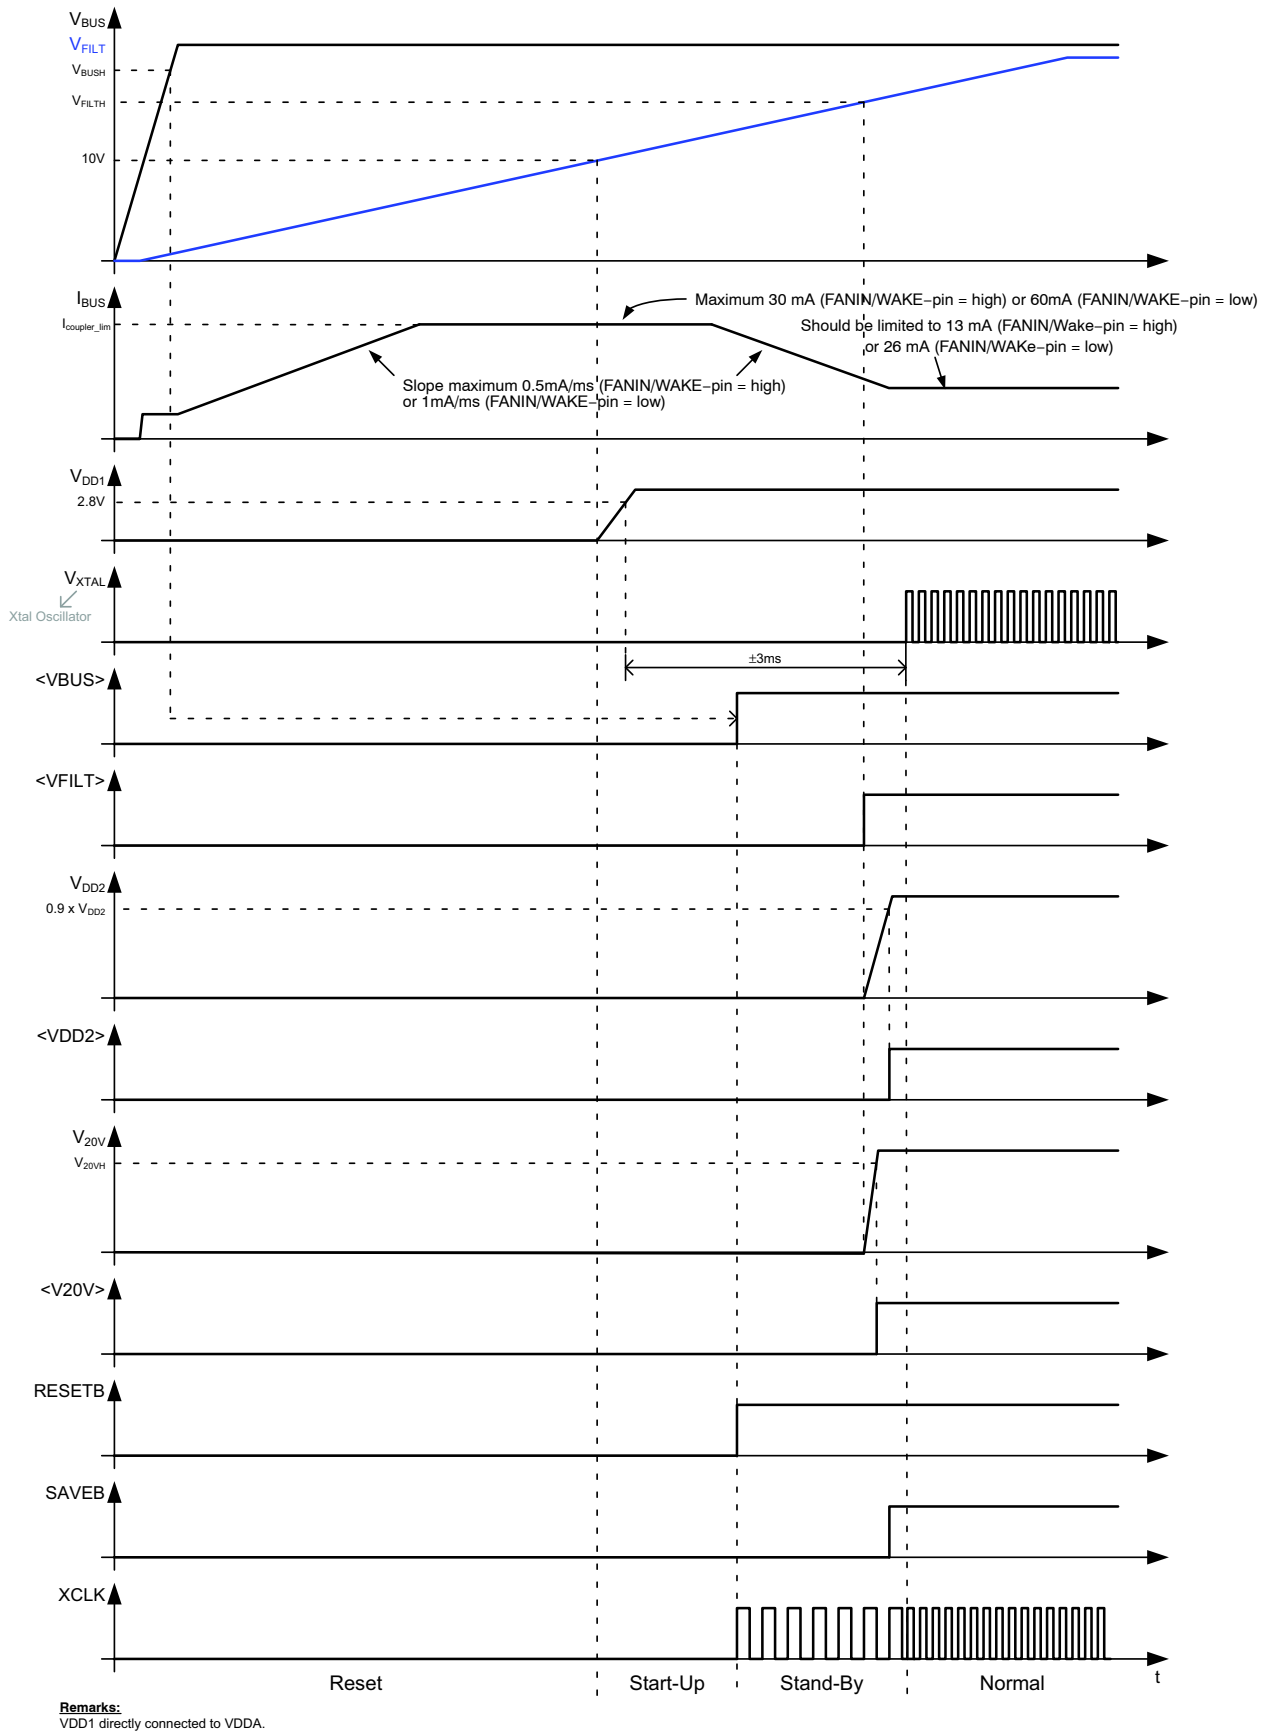

Figure 21. Start-Up Behavior
After power-up, a 4 MHz (Note 3) clock signal will be present on the XCLK–pin during Stand-By. When Normal State is entered, a 8 or 16 MHz clock signal will be present on the XCLK–pin. See also Figure 21.
Figure 21 gives a detailed view on the start-up behavior of NCN5120. After applying the bus voltage, the filter capacitor starts to charge. During this Reset State, the current drawn from the bus is limited to $I_{coupler}$ (for details see the KNX Standards). Once the voltage on the filter capacitor reaches 10 V (typ.), the fixed DC-DC converter (powering VDDA) will be enabled and the device enters the Start-Up State. When V_{DD1} gets above 2.8 V (typ.), the OTP memory is read out to trim some analog parameters (OTP memory is not accessible by the user). When done, the Stand-By State is entered and the RESETB-pin is made high. If at this moment V_{BUS} is above V_{BUSH} , the VBUS-bit will be set (<VBUS>, see System Status Service, p33). After approx. 2 ms the Xtal oscillator will start. When V_{FILT} is above $V_{FILT_{HDC2}}$ and V20V will be started. When the Xtal oscillator has started, no Thermal Warning (TW) or Thermal Shutdown (TSD) was detected and the VBUS-, VFILT-, VDD2- and V20V-bits are set, the Normal State will be entered and SAVEB-pin will go high.